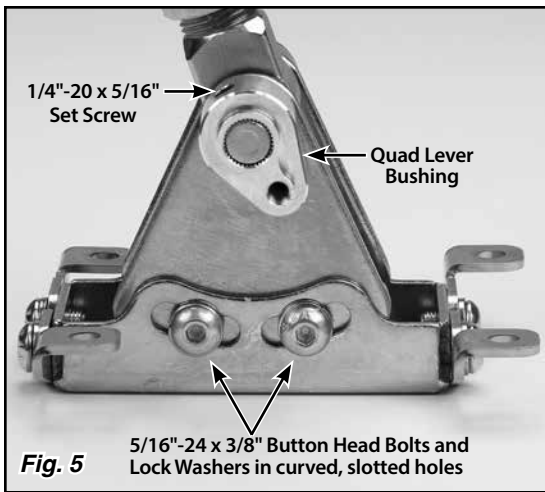

Fig. 5
**Step 5:** Make sure the two 5/16"-24 x 3/8" button head bolts and lock washers that are in the curved, slotted holes in the driver side of the floor mount mounting bracket are tight using a 3/16" Allen wrench. Place the Shifter in the desired location on the vehicle's floor. Make sure the shifter lever will not interfere with the dash when in Park, or with the seat when in low gear. The shifter assembly may be tilted forward or backward if needed by loosening the two 5/16"-24 x 3/8" button head bolts and lock washers that are in the curved, slotted holes in the driver side of the floor mount mounting bracket. Retighten the button head bolts and lock washers in the curved, slotted holes once you have the shifter assembly at the angle you want. Fig. 5